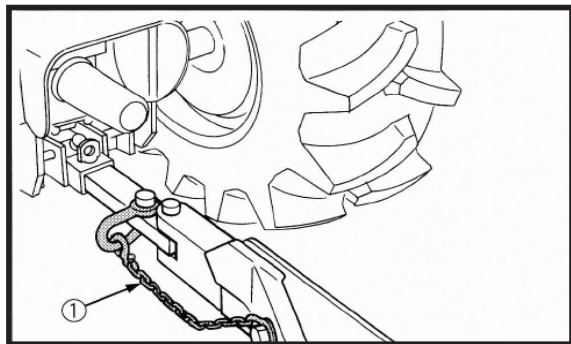

Figure 5.3
15. When towing other equipment, use a safety chain and place an SMV emblem on it as well Figure 5.3